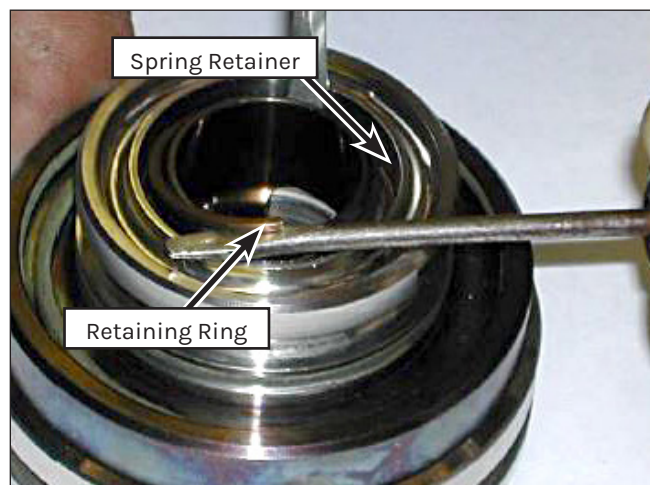

Figure 112: Removing the Retaining Ring.
3. Use a small screwdriver to depress the spring retainer. Use another screwdriver to remove the retaining ring. Insert the blade under the slit and rotate the ring out of the groove. Use caution to prevent bending or distorting the ring (Figure 112).